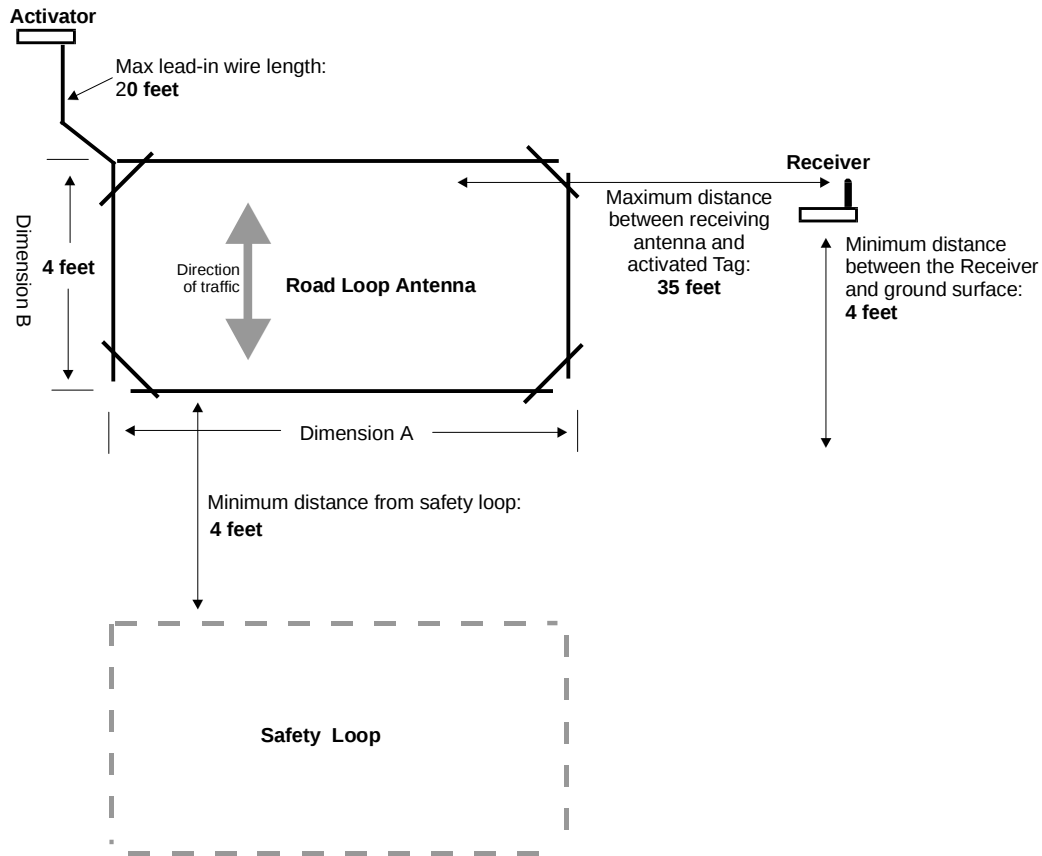

Figure 27 Road Loop Antenna installation diagram
- The long sides (Dimension A, Figure 27) will be shorter than the width of the road or lane.